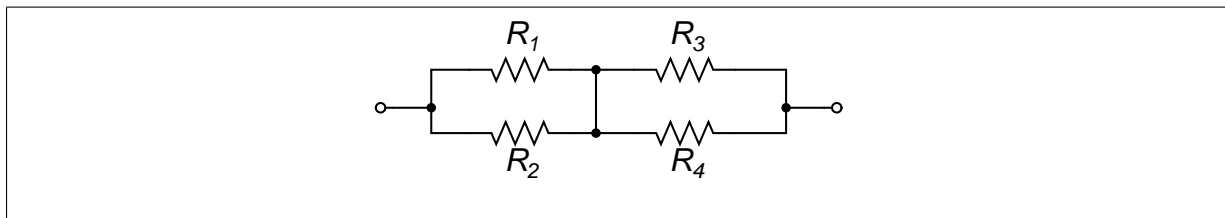

Figure 3: Solder four resistors as shown in the diagram.
4. Solder the four resistors as shown in Fig. 3. Calculate the total resistance of the combination using the measured values of resistors. Measure the total resistance of the combination, R_T , using your multimeter. Comment on any difference.